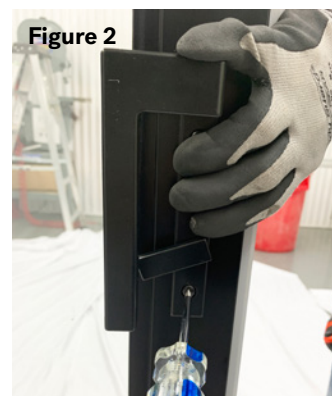

Figure 2
- 1** Place the wheels in the track in the top of the frame. (Figure 2)
- 2** On the Inside. Check that the lock pin is the horizontal position (Figure 2). Place the handle on the sash and screw both handles together with the screws.